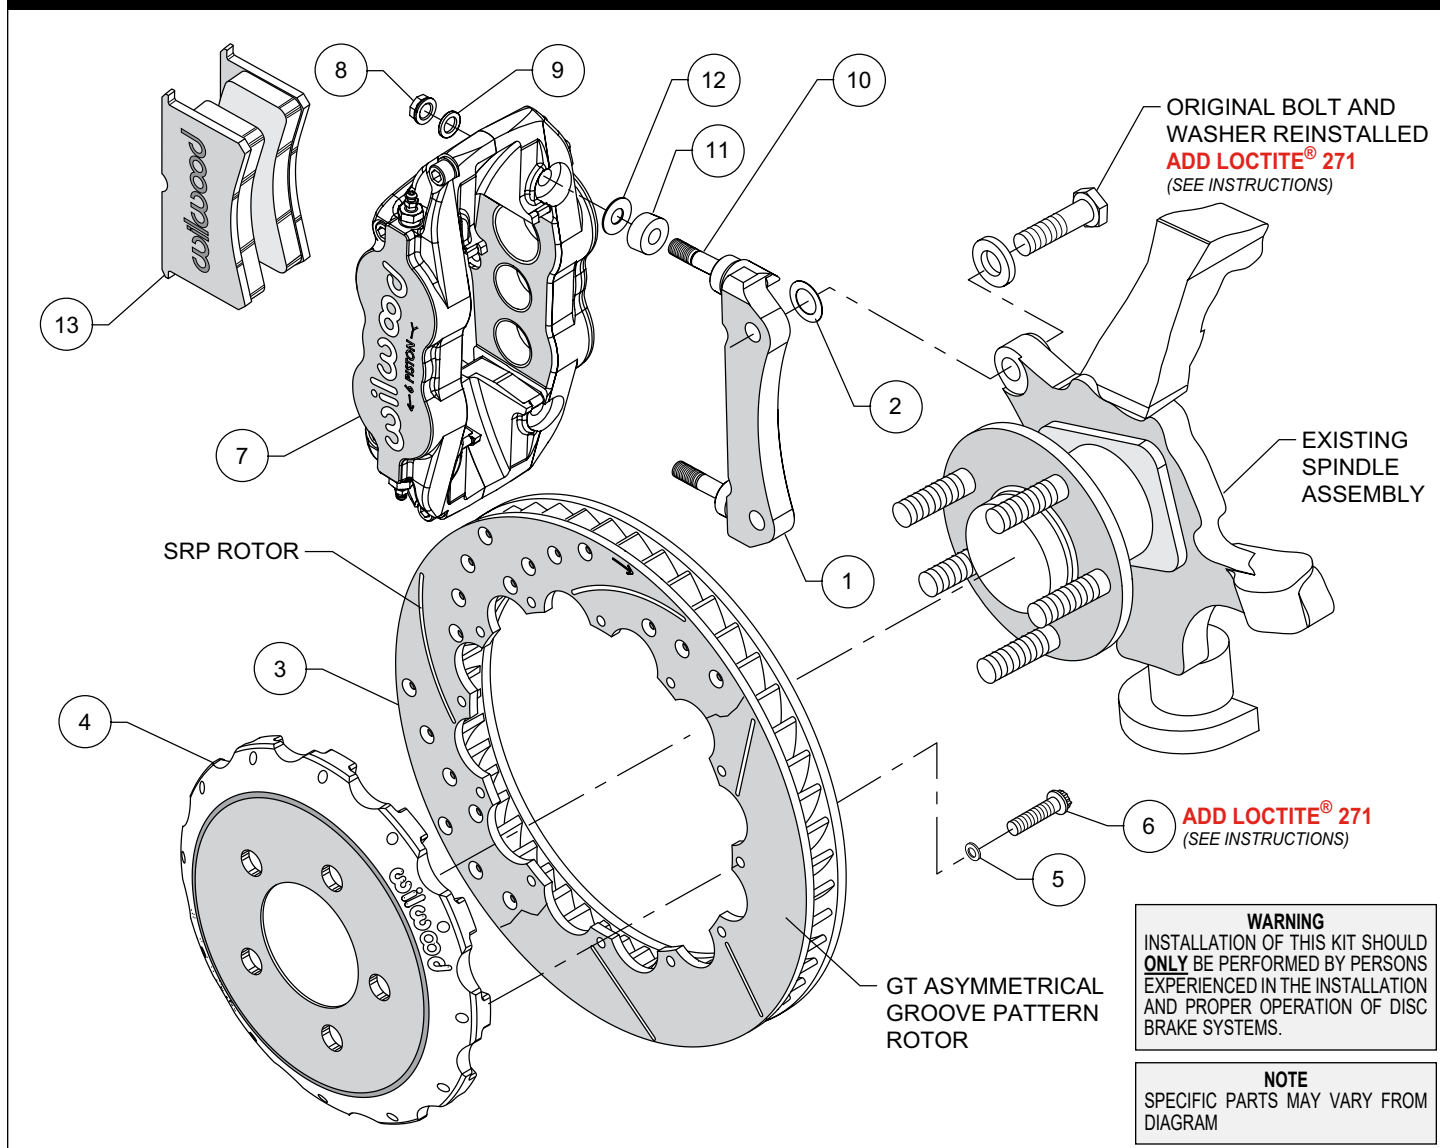
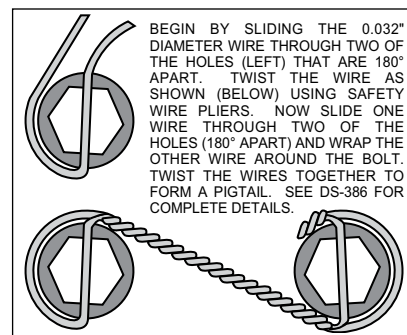

Figure 1. Typical Installation Configuration
Figure 3. Safety Wire Diagram
- Assemble the rotor (3) to the hat (4) with the bolts (6) and washers (5) as indicated in the configuration pictured in Figure 1. Apply red *Loctite*® 271 to the bolt threads and torque to 155 in-lb using a criss-cross pattern. For an added measure of security, the bolts may be safety wired using standard 0.032 inch diameter stainless steel safety wire as shown in Figure 3. Please refer to Wilwood's data sheet DS-386 (available at www.wilwood.com/Pdf/DataSheets/ds386.pdf) for complete safety wire installation instructions.
- **NOTE:** This kit contains distinct right and left hand calipers that must be mounted in a specific direction, as described below. Initially place one .035" thick shim (12) and spacer (11) on each stud (10) as shown in Figure 1. Mount the caliper (7) onto the bracket (1) using lock nuts (8) and washers (9), Figure 1. Ensure that the caliper is mounted so that the largest pistons are at the rotor exit end of the caliper, in relation to the direction of rotor rotation. Temporarily tighten the lock nuts and view the rotor through the top opening of the caliper. The rotor should be centered in the caliper. If not, adjust by adding or subtracting shims (2) between the bracket and the upright. Always use the same amount of shims on each of the two mounting bolts. Once the caliper alignment is correct, remove the bracket mounting bolts one at a time, apply red *Loctite*® 271 to the threads, and torque to manufacturer's specifications.
- Remove the caliper center bridge pad retainer bolt, nut, and tube from the caliper. Slide the brake pads (13) into place. They should install easily without interference. Check that the outside radius of the brake pad is aligned with the outside diameter radius of the rotor face. Add or subtract .035 shims (12) between the caliper and mount bracket to gain the proper alignment. Reinstall the center bridge pad retainer tube, bolt, and lock nut. The locknut should be snug without play in the bolt or tube. Be cautious not to over tighten.
- Once all clearances have been checked, remove the wheel, caliper, hat, and rotor from the spindle and hub. Secure the caliper mounting bracket (1) to the spindle using red *Loctite*® 271. Torque the bolts to 65 ft-lbs. Reinstall the hat and rotor assembly and again use several lug nuts to hold it in place. Reinstall the caliper and torque the caliper nuts (8) to 28 ft-lbs.